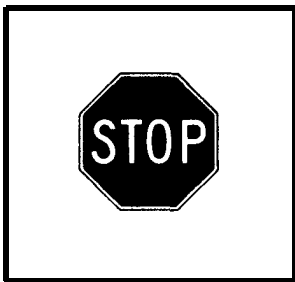

FIGURE 6
a. **Stop Signs.** Stops signs are red octagonal signs (Figure 6); a complete stop must be made at such signs,